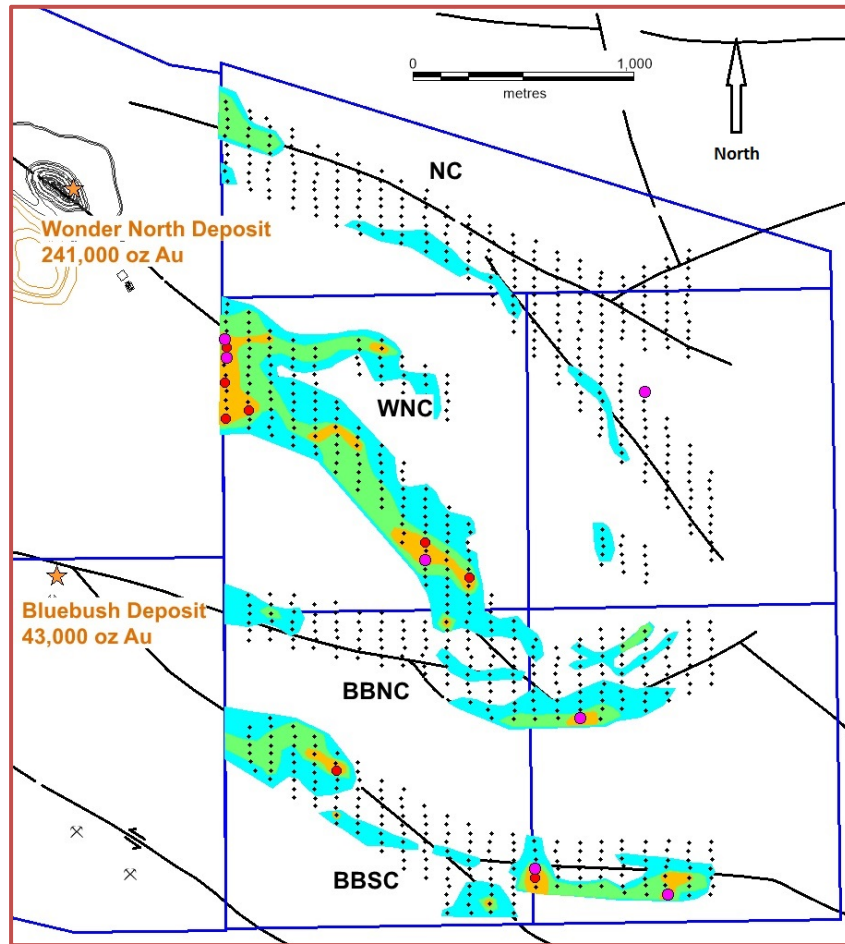

Figure 1: Gold-in-Auger Anomalism – Eastern Bundarra Project Area
The Company recently completed an auger drilling program designed to test four prospective corridors interpreted from aeromagnetic imagery over the eastern portion of the project area (Figure 1).
Gold assay results returned from the auger sampling have highlighted the potential of all the interpreted corridors to host significant gold mineralisation. Large coherent anomalies up to 2 kilometres in strike length have been delineated within these corridors. The largest and highest magnitude gold-in-auger anomalies have been returned from what have been named the Wonder North (WNC), Bluebush North (BBNC) and Bluebush South (BBSC) Corridors. These corridors extend southeast of the Wonder North (241,000 oz) and Bluebush (43,000 oz) gold deposits respectively. While not of the same amplitude, an anomaly has also been defined along the Northern Corridor (NC), particularly at its northwest end (Figure 1).